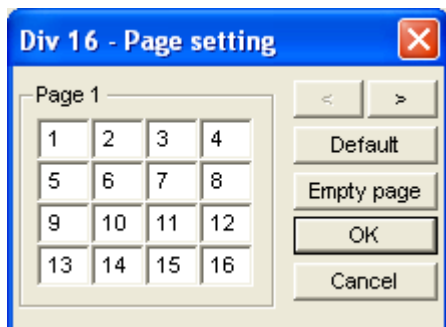

Figure 1-97
- **Interval:** Enter the interval between the scanned pages (see *Figure 1-97* for the scanned page). Set the time between 1 and 999 seconds.